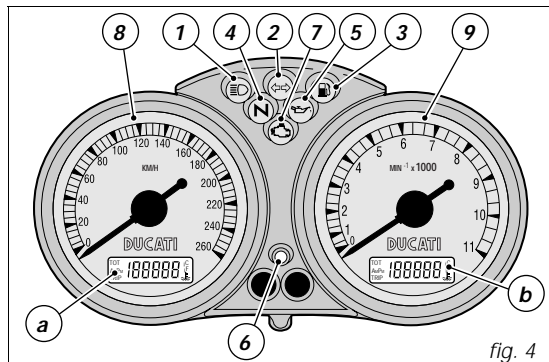

fig. 4
Instrument panel (fig. 4)
In case of faulty immobilizer system, the following procedure gives the chance to disable "engine block" function -immediately signalled by the orange EOBD warning light (7, fig. 4).
The EOBD warning light (7, fig. 4) turns off after 8 seconds.
- 4) Count as many flashes of the EOBD pilot light (7, fig. 4) as the first digit of the electronic code.
- 1) if the CPU recognised the code, the light (6, fig. 4) on the instrument panel will flash briefly. This means that the immobilizer system has recognised the key code and enabled engine ignition. Press the START button (2, fig. 13), to start the engine;
- 2) if light (6, fig. 4) or EOBD light (7, fig. 4) stay on, it means that the code was not acknowledged. When this is the case, turn the ignition key back to OFF and then to ON again. If the engine still does not start, try with another black key. If the other key does not work out either, contact the DUCATI Service network.
- 3) Should the pilot light (6, fig. 4) still be flashing, it means that an immobilizer system fault was reset (e.g. with the overriding procedure through throttle grip). Turn the key to OFF and back to ON, the immobilizer pilot light should go back to its normal operation (see step 1).